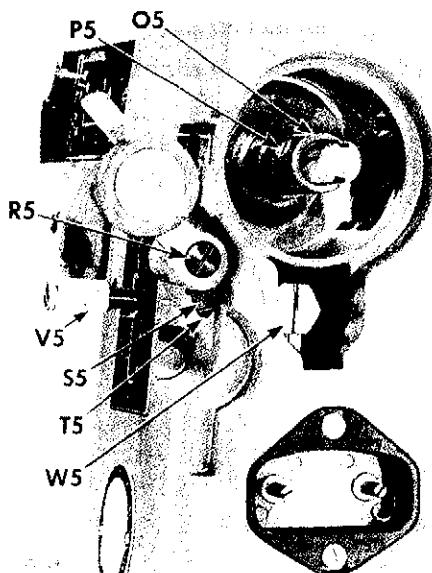

Fig. 311. Arm Shaft Counterbalance
4. Remove screw **P5** and counterbalance **O5**, Fig. 311 from arm shaft.
4. Replace counterbalance **O5**, Fig. 311.
5. Insert screw **P5** through counterbalance **O5** and hole provided for it on arm shaft, as shown in Fig. 311.
4. Remove large screw stud W5, Fig. 311 with its spring and washer from arm casting.
2. Replace large stud W5, Fig. 311 with spring and washer, so that stud holds slide to inside of arm.